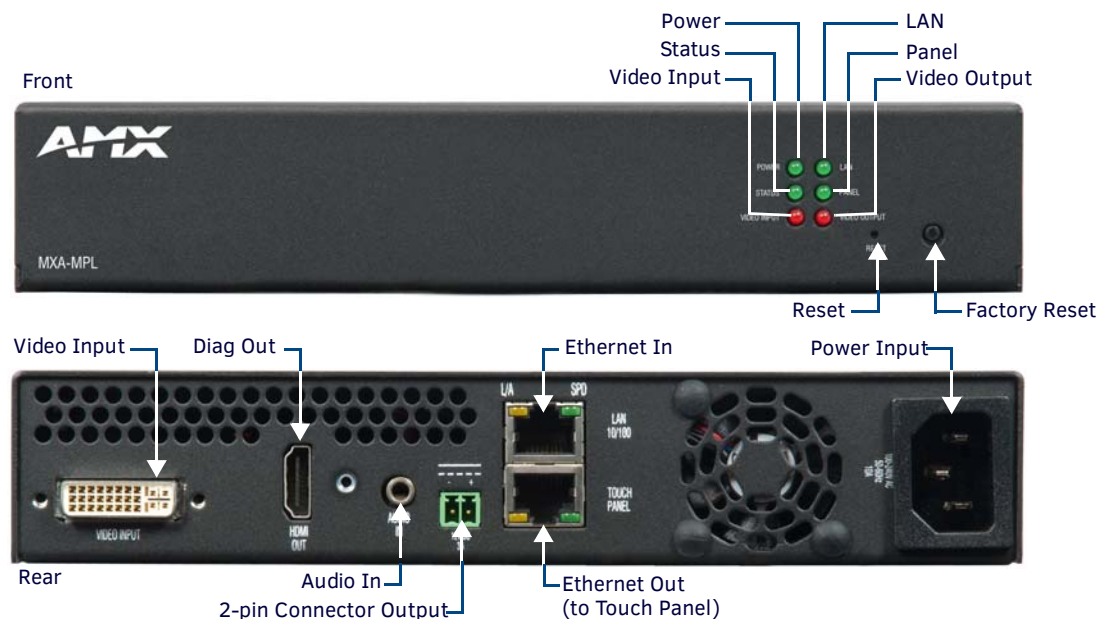

FIG. 1 MXA-MPL
The MXA-MPL (FG5968-10) is a touch panel accessory that displays a HD digital video stream on Modero X Series Touch Panels when used in conjunction with an Enova DVX All-In-One Presentation Switcher or Enova DGX Digital Media Switcher (FIG. 1). The MXA-MPL accepts digital video inputs over HDMI and converts them to a video stream. The MXA-MPL also supports all of the features of the MXA-MP, displaying up to 10 JPEG preview images on a Modero X Series touch panel. The MXA-MPL makes it easy for users to make quick identification of what is currently being displayed by up to 10 source devices.
- When the installation is complete, apply power to the device and to the touch panel. Verify via the LEDs on the front of the device (FIG. 1) that it is receiving power and is connected to the network.
- If the touch panel accepts external power, power to the touch panel may be supplied via the device's 2-pin connector output (FIG. 1) or through another source.